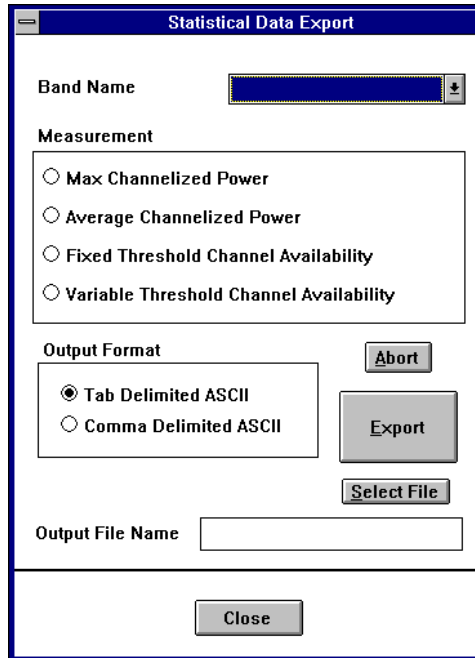

Figure 9-7: Statistical Data Export Dialog Box
1. Select **Statistical Channel Measurements...** from the Export Data selection list to open the **Statistical Data Export** dialog box (Figure 9-7).